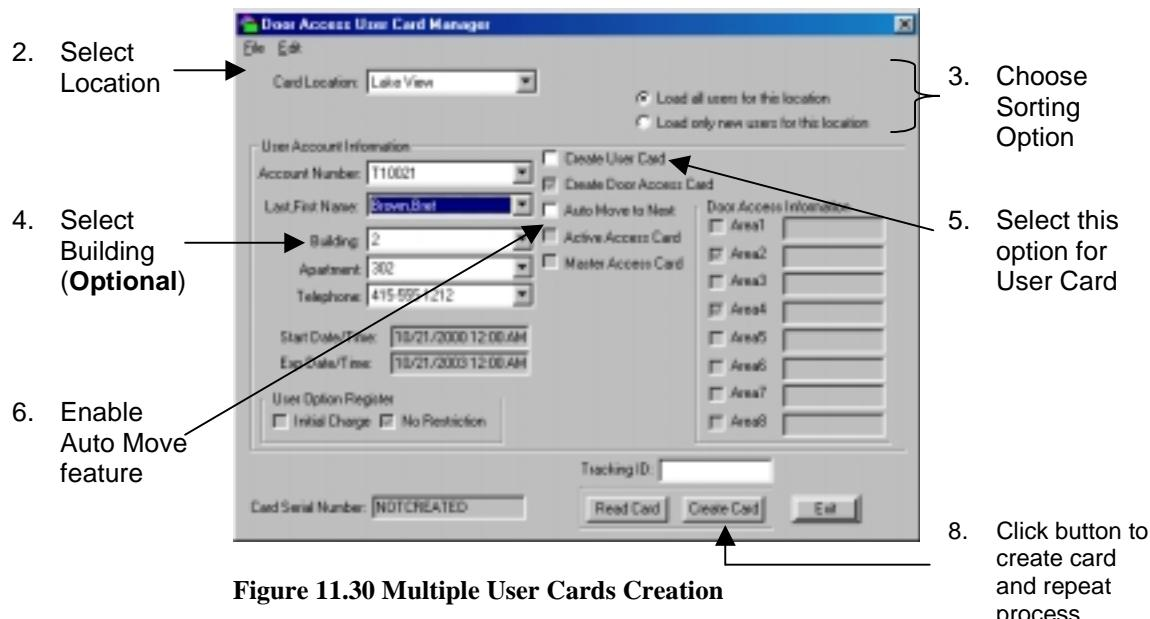

Figure 11.30 Multiple User Cards Creation
2. Select the users' location from the User Location selection (Figure 11.30).
3. If cards are being created only for new users, select the “Load only new users for this location” option (Figure 11.30).
4. If cards are being created only for a specific building for this location, select the building from the Building drop-down selection (Figure 11.30).
5. Enable the “User Card” option by clicking on it if the cards are also going to be used for laundry vending applications (Figure 11.30).
6. Enable the “Auto Move to Next” option (Figure 11.30).
8. Click the Create Card button and repeat process (Figure 11.30).